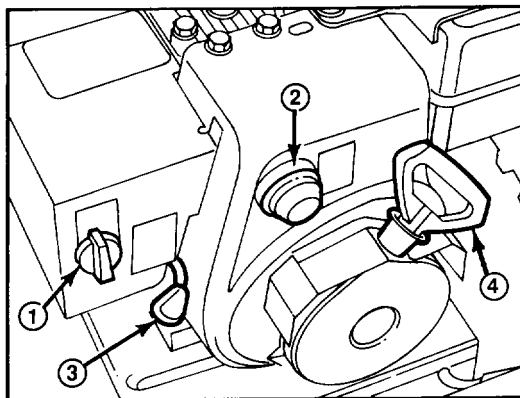

Figure 14
**Throttle** (Fig. 14) — Moving the throttle upward increases engine speed.
**Choke** (Fig. 14) — Choke for engine is located on heater box. Rotate choke to FULL choke position to start a cold engine. As engine warms up, move choke gradually to OFF.
**Primer** (Fig. 14) — Press primer to pump small amount of gasoline into engine for improved cold weather starting.
**Recoil Starter** (Fig. 14) — Recoil starter is on back side of engine. Pull recoil starter to start engine.
2. Move throttle to FAST (Fig. 14).
4. Rotate choke to full choke position (Fig. 14).
6. Depress primer (Fig. 14) five times.
7. Grasp recoil starter handle (Fig. 14) and pull it out slowly until positive engagement results; then pull vigorously to start the engine. Keep firm grip on starter handle and return the rope slowly.
8. After engine starts, immediately rotate choke (Fig. 14) to 3/4 position. As engine warms up, rotate choke to 1/2 position; then to OFF position. If engine falters, return choke to 1/2 position. When engine warms sufficiently, rotate choke to OFF position.
2. Move throttle to slow and rotate ignition key to OFF (Fig. 14).